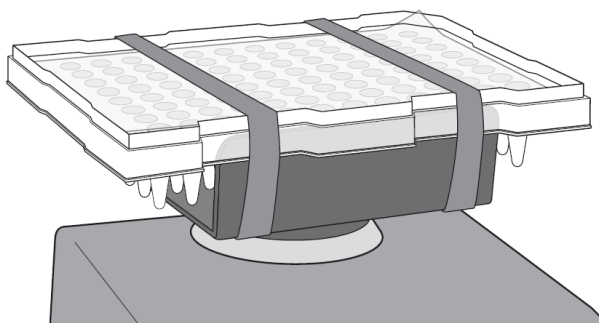

Figure 5 Microplate Adapter for Applied Biosystems™: Elastic band positions for 96- and 384-well plates
- If you are using the Microplate Adapter for Applied Biosystems™—Fasten the plate to the adapter using elastic bands (see Figure 5).